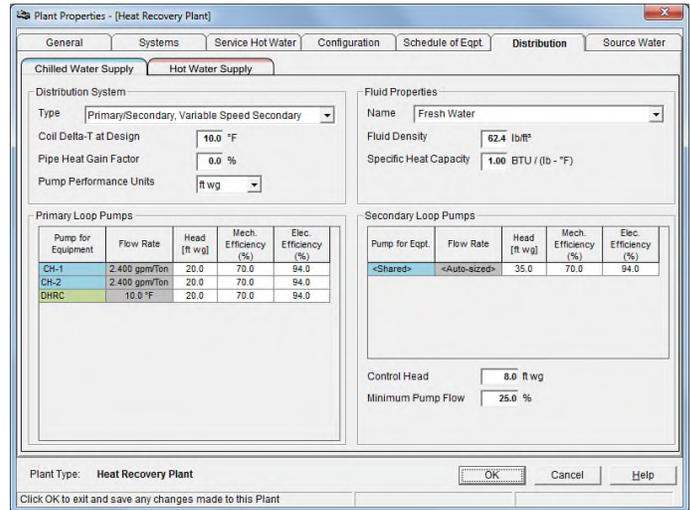
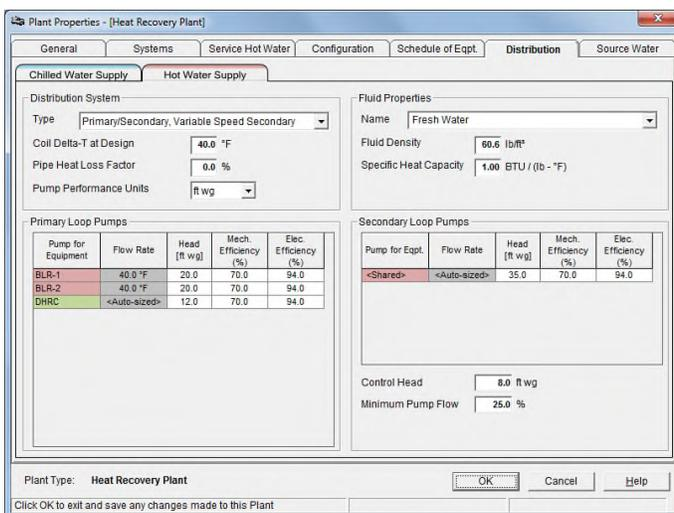

Figure 12.
Figure 13.
The Distribution Tab is used to define the performance of the chilled water and hot water distribution loops. The tab contains two sub-tabs: one for the chilled water supply loop, color coded blue, (Figure 12) and one for the hot water supply, color coded red (Figure 13).
In Figure 12 note that there are two rows in the Primary Loop Pumps section color coded blue and labeled as CH-1 and CH-2. These are the primary chilled water pumps for the two cooling-only chillers in our example. The third line item color coded in green and labeled as DHRC is the primary chilled water pump for the DHRC machine.
- Inputs on the **Hot Water Supply** sub-tab (Figure 13) are similar to those for a conventional hot water plant. You select the distribution system type, specify fluid properties and pump performance.
In Figure 13 note that there are two rows in the Primary Loop Pumps section color coded red and labeled as BLR-1 and BLR-2. These are the primary hot water pumps for the two boilers in our example. The third line item color coded in green and labeled as DHRC is the heat recovery booster pump. In Figure 1 this is the pump in the heat recovery leg of the system (middle left in Figure 1) that circulates water from the hot water return pipe to the DHRC machine.